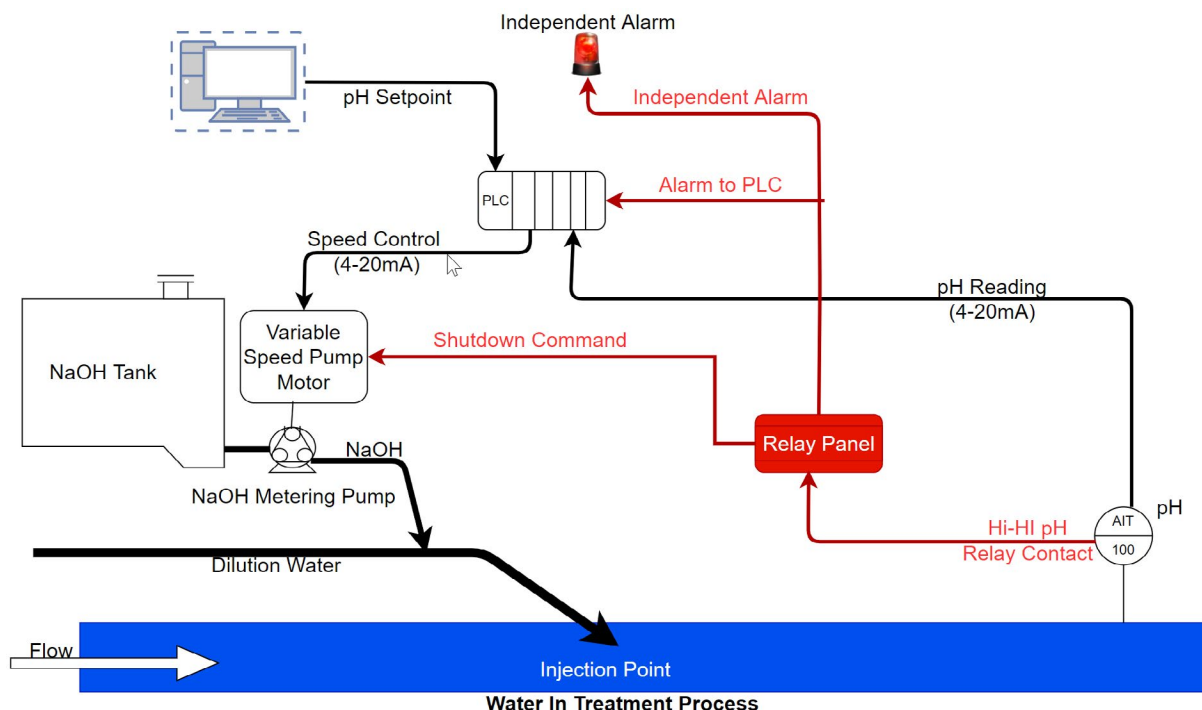

Figure 1 - Hardwired Hi-pH Shutdown and Independent Alarm Example
- Dangerous overdosing of treatment chemicals can be mitigated by careful pump sizing and/or, as shown in Figure 1, hardwired shutdown interlocks between the chemical analyzer and pump control circuit.
Figure 1 depicts a simplified example of a cyber-physical safety system designed to prevent an overdose of Sodium Hydroxide into a drinking water system. In this example, a ‘hi-hi’ pH alarm contact is taken directly from an output contact of the pH analyzer/transmitter, wired via a relay panel, to halt the NaOH metering pump. When this system is engaged, it notifies the operator via an alarm to the